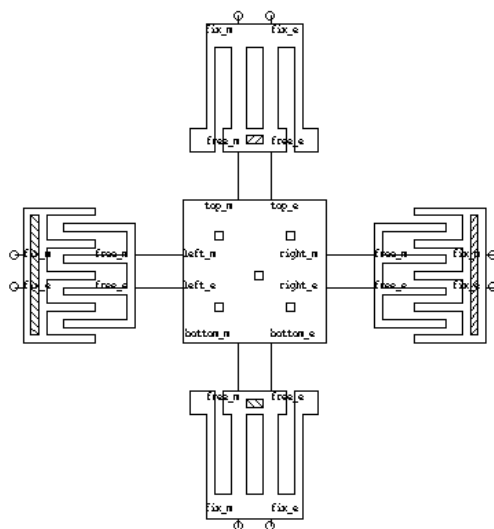

Figure 3: Schematic view of the wired elements
- ☑ Repeat this process to wire the plate with the other components (see Figure 3).